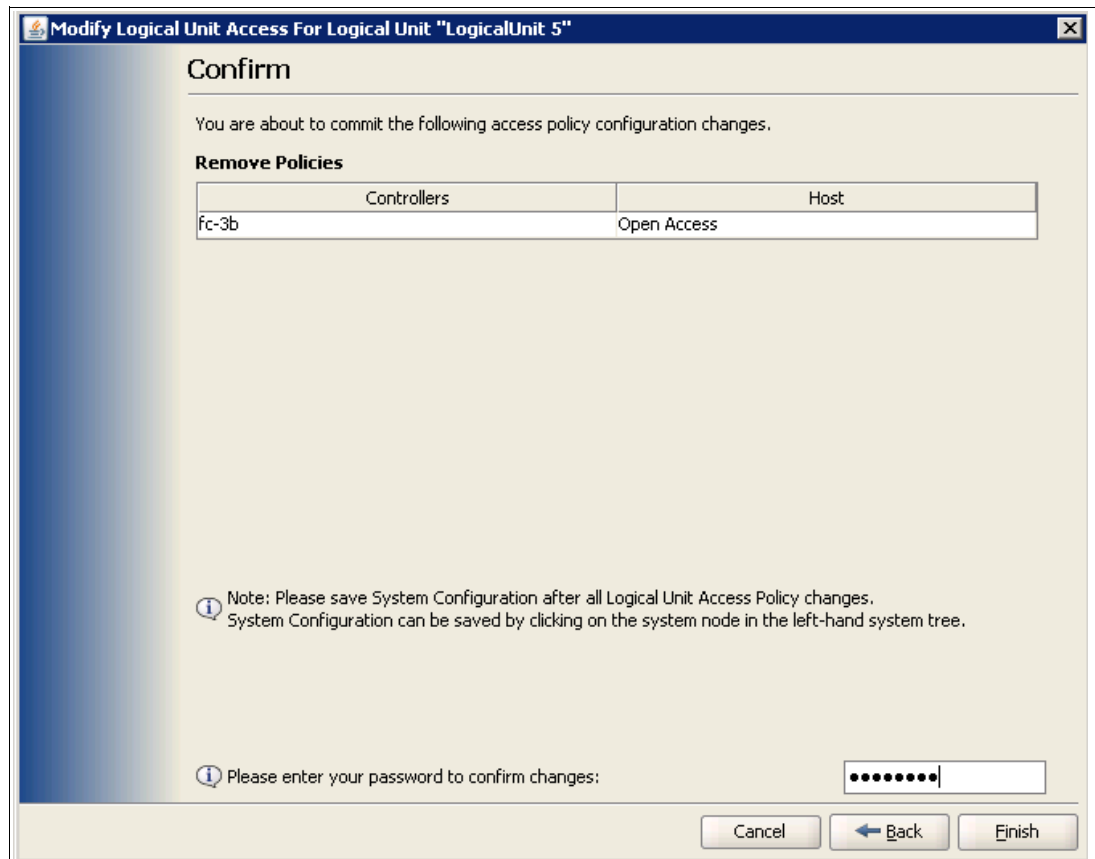

Figure 5-17 Access Confirmation window
3. After you select the controller port, click **Next** to continue. Confirmation is required to continue with the addition or removal of access ports, as shown in Figure 5-17 on page 181. After you provide the password, click **Finish** to complete the task.